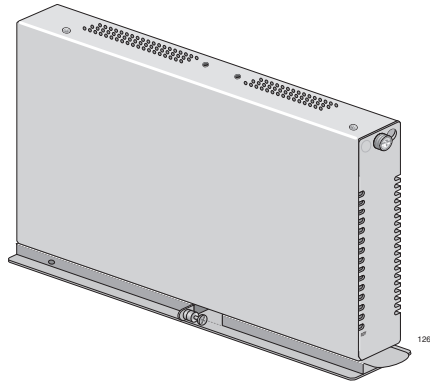

Figure 14. AT-CV1000 Chassis with AT-CVMCR Adapter Installed
4. Turn the chassis over, as shown Figure 14.